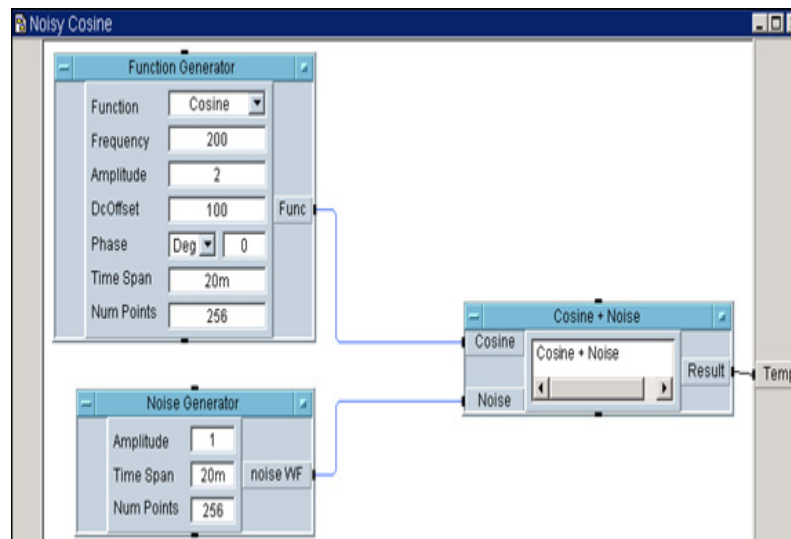

Figure 1-16 The Completed Noisy Cosine UserObject
- 6 Go to the dark blue horizontal top bar and click on the mouse right button; select Add Terminal, Data Output. (An X will appear on the right edge of the UserObject.) Change the X to Temp. See Figure 1-16.